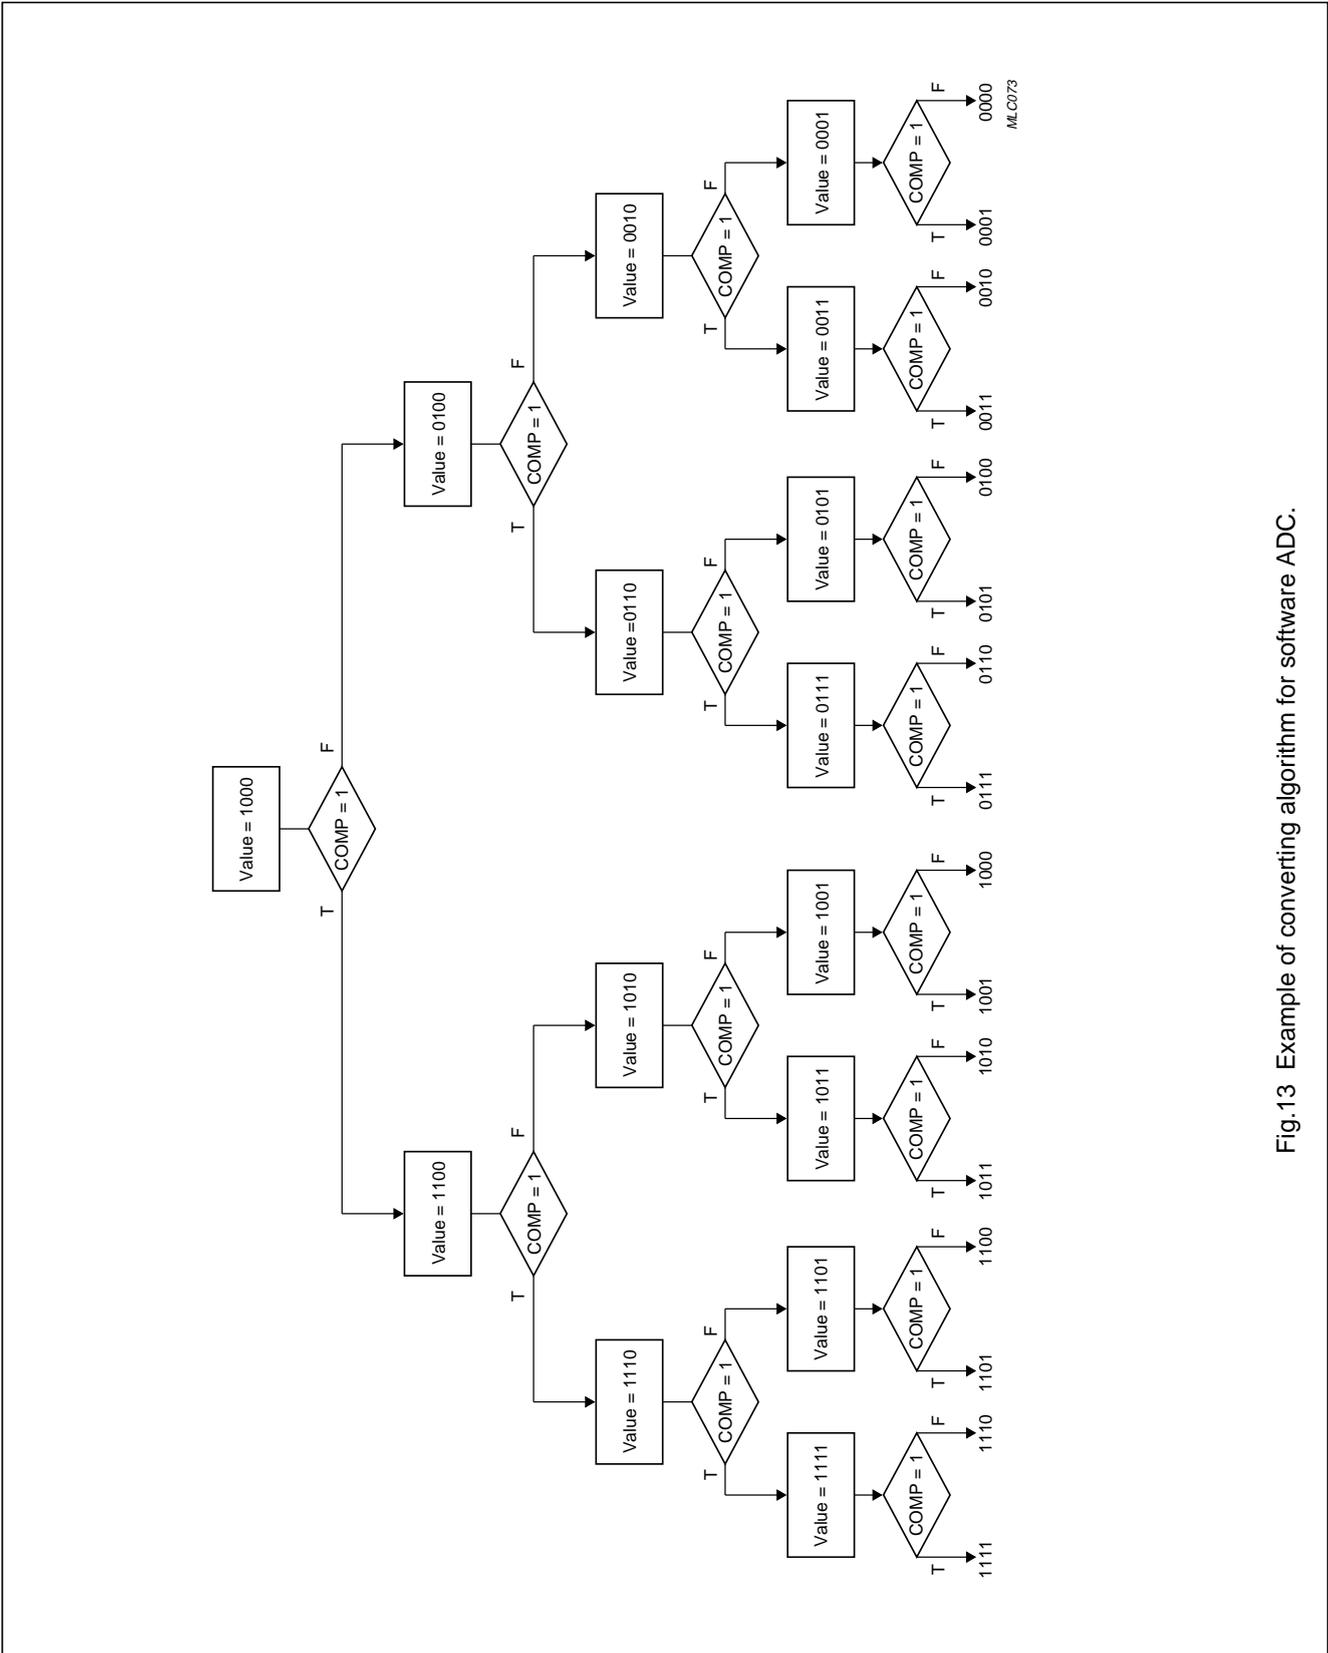

Fig.13 Example of converting algorithm for software ADC.
There are many algorithms available to achieve the ADC conversion. The algorithm described below and shown in Fig.13 uses an iteration process.
9. The operations detailed in 6, 7 and 8 above are repeated and each time the digital input to the DAC is changed accordingly; as dictated by the state of the COMP bit. The complete process is shown in Fig.13. Each time the DAC input is changed the number of values which the analog input can take is reduced by half. In this manner the actual analog value is honed into. The value of the analog input ( $V_A$ ) is determined using Equation (4):